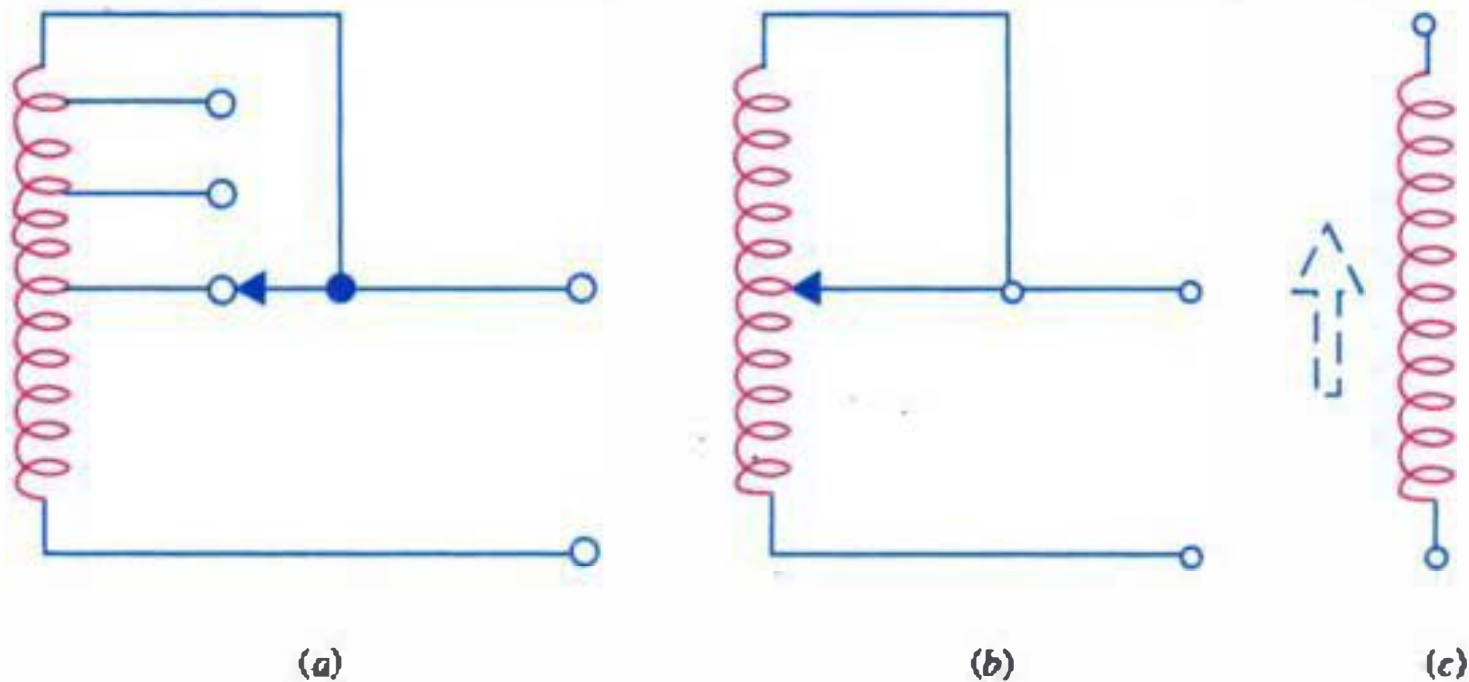

Fig. 5.18
The inductance of a coil can be varied by the three different methods shown in Fig. 5.18.
1. By using a tapped coil as shown in Fig. 5.18 (a). Here, either more or fewer turns of the coil can be used by connection to one of the taps on the coil.
2. By using a slider contact to vary the number of turn used as in Fig. 5.18 (b).
3. Fig. 5.18 (c) shows the symbol for a coil with a ferrite slug which can be screwed in or out of the coil to vary its inductance.